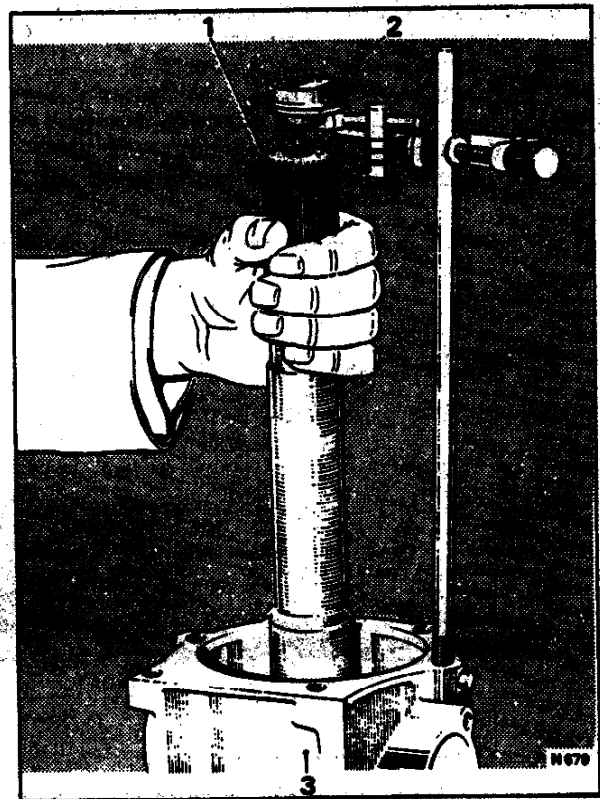

Fig. T96 Checking the rear unit end-float.
3. Mount a dial test indicator onto the bolt so that the indicator stem registers with the end of the output shaft (see Fig. T96).